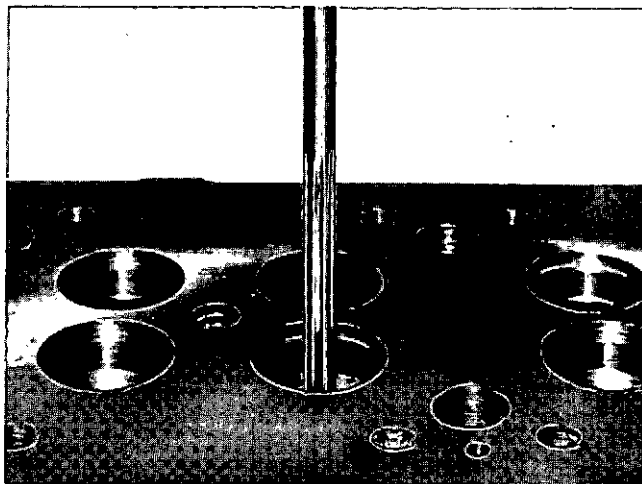

Fig. 2-5-7, V40212. Ream valve guide
a. Ream valve guide from bottom side of cylinder head, using a drill press and floating tool holder. Fig. 2-5-7. Use ST-646 Reamer only if valves will not go into guide freely.